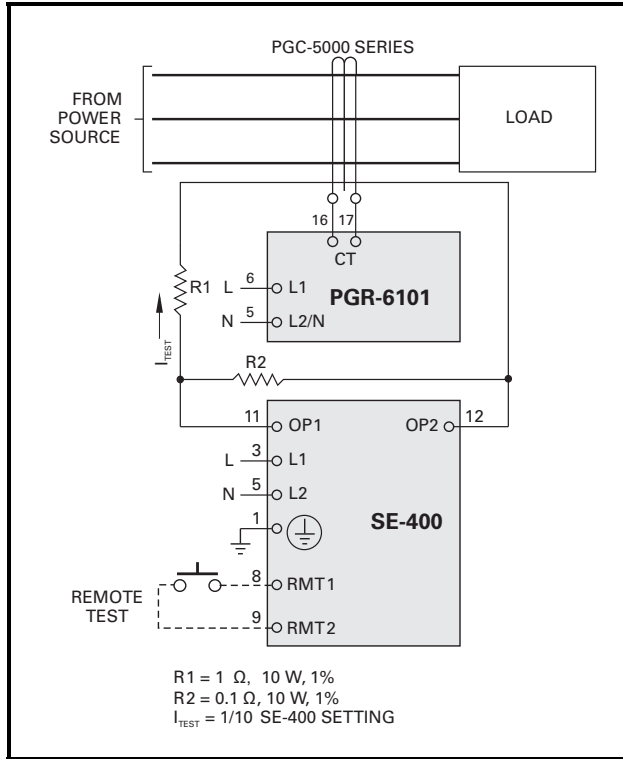

FIGURE 8. Ground-Fault-Test Circuit.
- d) Verify proper reaction of the circuit-interrupting device in response to a simulated or controlled ground-fault current. To simulate ground-fault current, use CT-primary current injection. Fig. 8 shows a test circuit using the SE-400 Ground-Fault-Relay Test Unit. The SE-400 has a programmable output of 0.5 to 9.9 A for a duration of 0.1 to 9.9 seconds. Fig. 8 shows the use of resistors that reduce the injected current to 10% of the SE-400 setting. Set the test current to 120% of the PGR-6101 setting. Inject the test current through the CT window for at least 2.5 seconds. Verify that the circuit under test has reacted properly. Correct any problems and re-test until the proper reaction is verified.